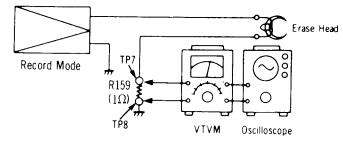

Fig. 19
I Erase current Condition: * Record mode * Bias adjustment control ... Center Equipment: * VTVM * Oscilloscope	1. Test equipment connection is shown in fig. 19. 2. Place UNIT into record mode and measure voltage at test point 7. 3. Determine erase current with the following formula. $\text{Erase current (A)} = \frac{\text{Voltage across both ends of R159}}{1 (\Omega)}$ <div style="border: 1px solid black; padding: 5px; text-align: center;"> Standard value: $95 \pm 5 \text{ mA}$ (Tape selector ... Metal) </div> 4. If measured value is not within standard, adjust VR803.